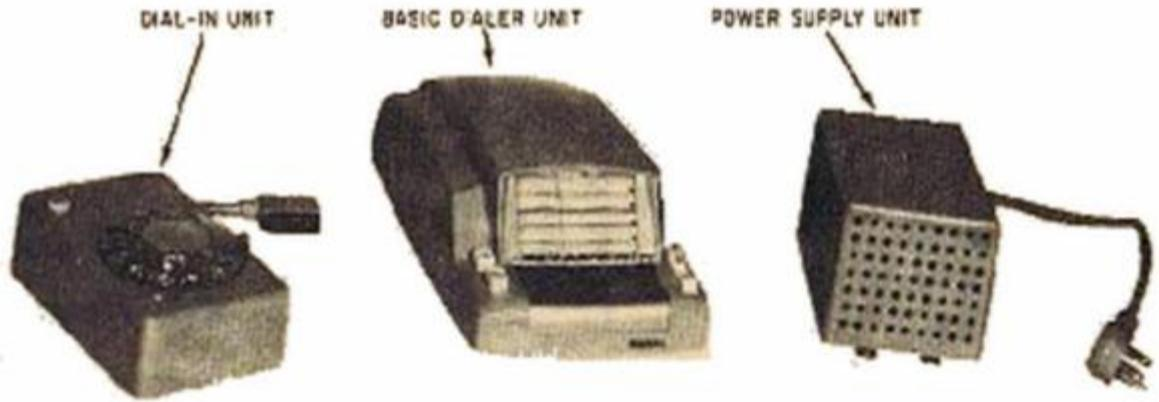

Figure 1. E-2 Automatic Dialer with Power Supply Unit.
2.02 The complete assembly (Figure 1) consists of an E-2 Basic Dialer Unit, P2 Power Supply Unit, and D2 Dial-In Unit. Standard colors of black, beige, and white are available.
2.05 The P2 power supply unit (Figure 1) is a full-wave, solid-state supply that operates from a 105/125-Vac power source. It furnishes all necessary operating voltages for the automatic dialer and dial-in unit. The power supply is preconnected at the factory to the automatic dialer by means of a 5-1/2 foot cord that is terminated at both ends with spade terminals. The cord for the connection to the 105/125-Vac source is 8 feet long. Dimensions of the power supply unit are 5-3/4 inches long by 3-5/16 inches high by 3-3/4 inches wide.